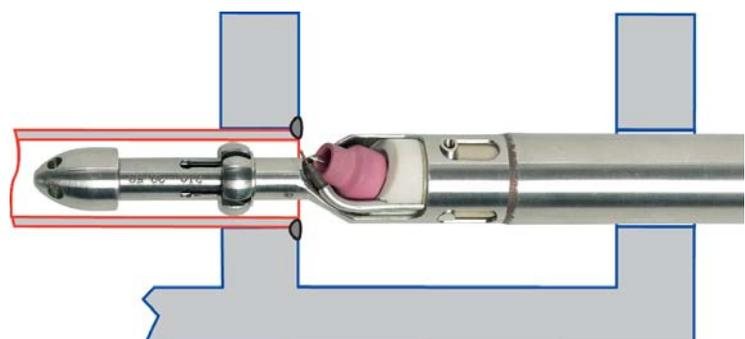

Fig.3.23 - Double plate welding
- Double plate welding (Fig.3.23).